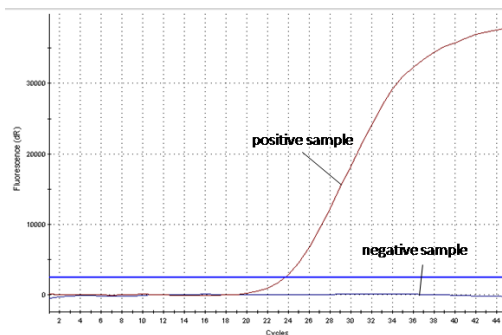

Figure 1: The positive sample shows bacteria specific amplification in the FAM channel, whereas no fluorescence signal is detected in the negative sample.
**Figure 1** and **Figure 2** show examples for positive and negative real time PCR results.